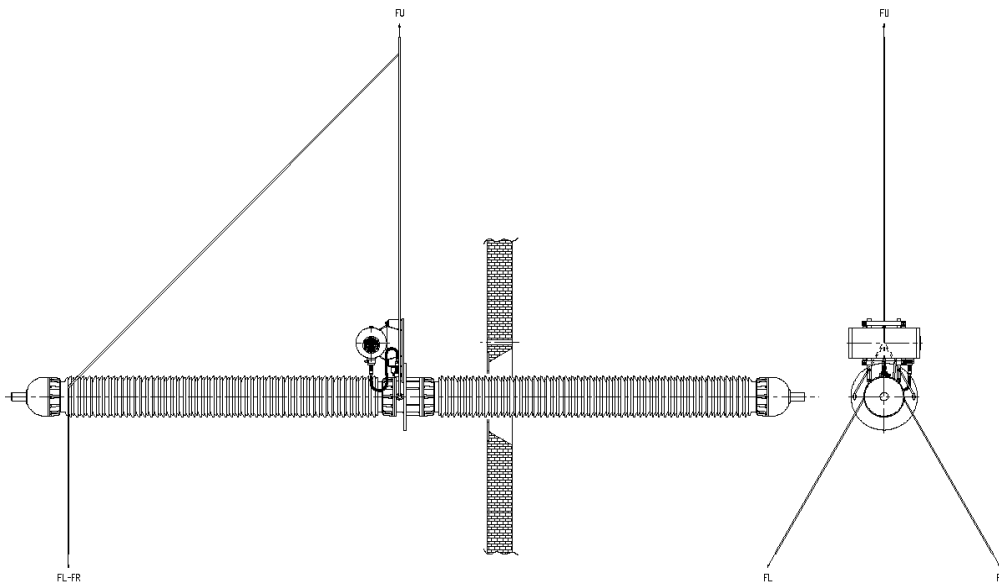
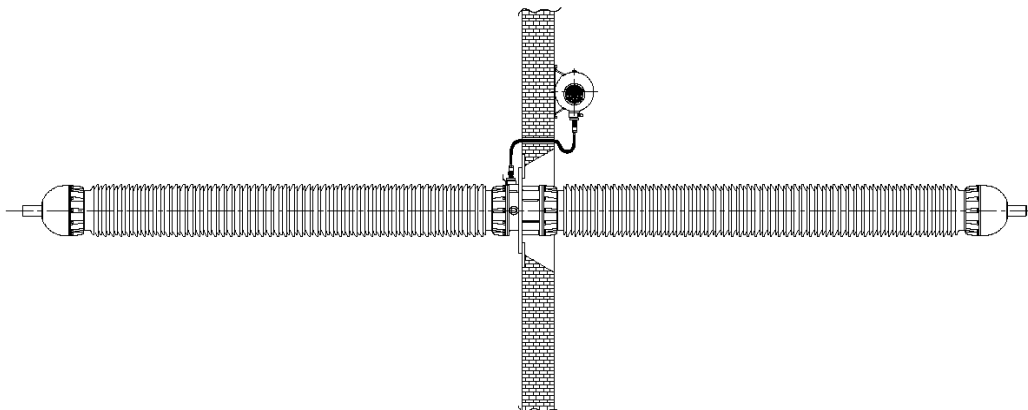

Fig. 6
Fig. 7
To mount the through-wall bushings apply the ropes as indicated in the following fig. 6.
Close to the head it is necessary to apply a rope having two extremities which, taken down in horizontal position, allow to guide the bushing on the right and on the left (see fig. 6). After having lifted the piece and before beginning the installation operation, it is better to cover with wooden battens or sturdy cardboard the porcelain destined to the mounting hole. This in order to protect the sheds and to make quicker and easier the operation. When the bushing is correctly positioned, fix the flange at the wall (see fig. 7).
The oil reservoir can be left in its original position, over the bushing flange, during service. Nevertheless, it can be mounted on the wall, in both sides of it (see fig. 7).
- Apply the ropes to the bushing (see fig.6);